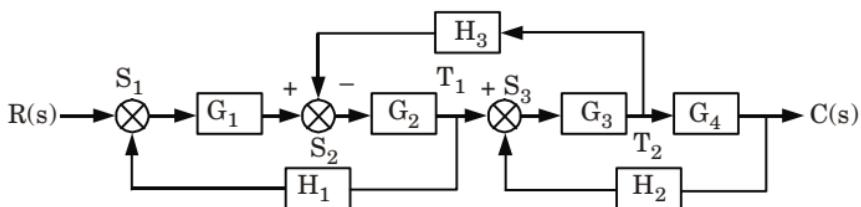

Fig. 2.
2. Determine the transfer function $C(s)/R(s)$ for the block diagram shown in Fig. 2.